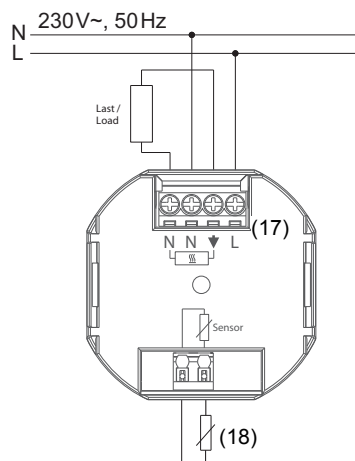

Figure 6: Connection diagram
- Connect controller according to connection diagram (Figure 6).
- Connect temperature sensor according to connection diagram (Figure 6, 18).